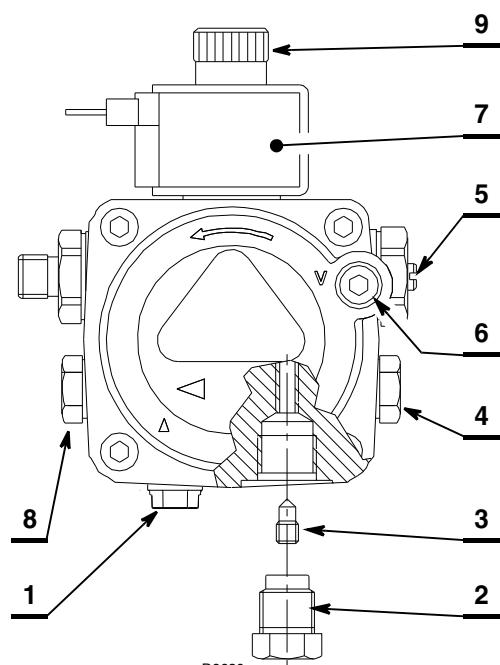

Fig. 9
- The pump (Fig. 9) is designed to allow working with two pipes.
It is sufficient to loosen the vacuometer connection 6) (Fig. 9) and wait until oil flows out.